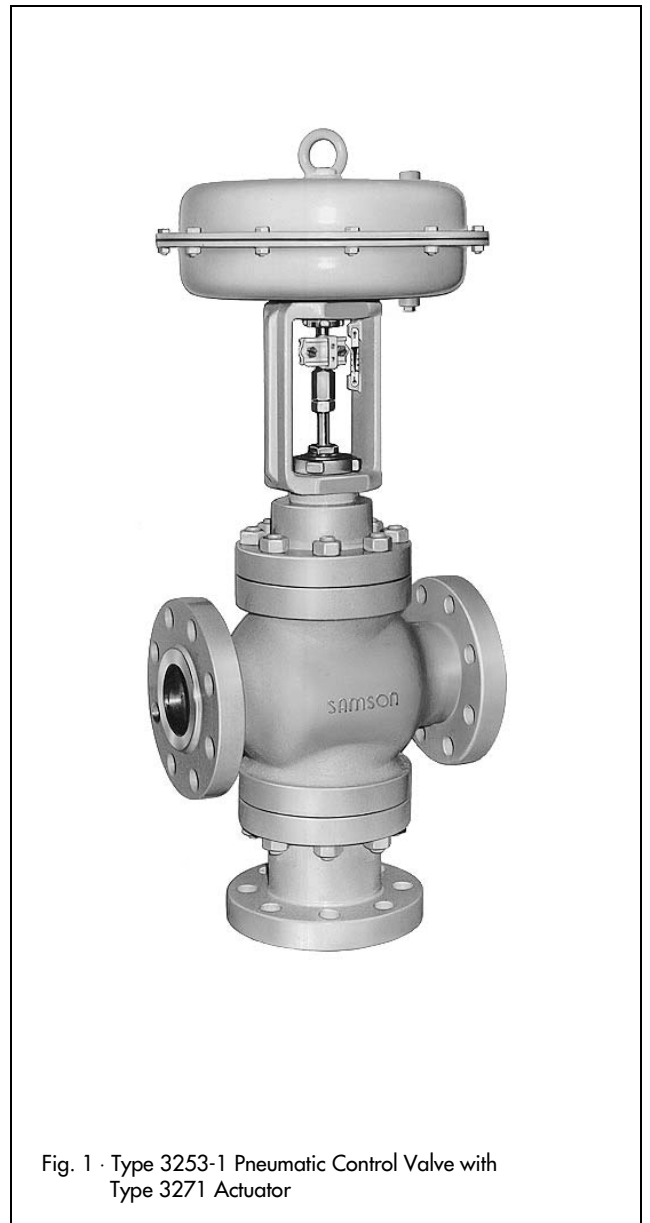

Fig. 1 · Type 3253-1 Pneumatic Control Valve with Type 3271 Actuator
**Type 3253-1** (Fig. 1) · Type 3253 Valve and Type 3271 Actuator with 350 to 2800 cm2 – see Data Sheet T 8310-1/-2 EN for details